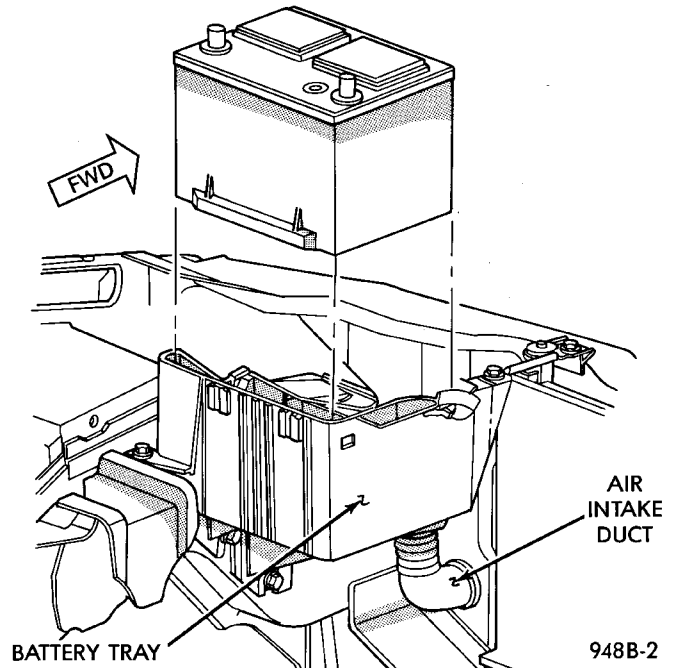

Fig. 19 Battery Hold-Down
- (4) Remove battery hold down clamp (Fig. 19) and battery from vehicle.
- (5) Remove the tube from the radiator closure panel by squeezing the lock tabs and pushing from the front side (Fig. 19).